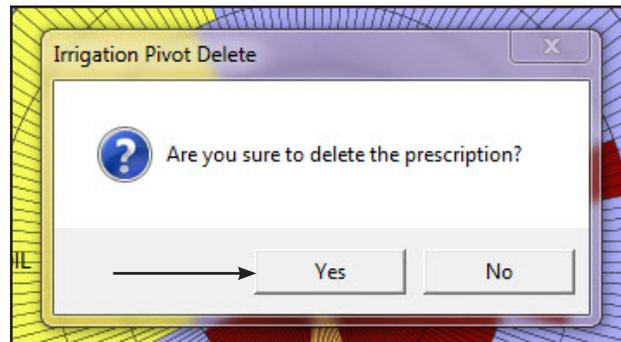

Figure 34-2 Delete Decision Pop-up
3. Click **Yes**. (Refer to Figure 34-2.)